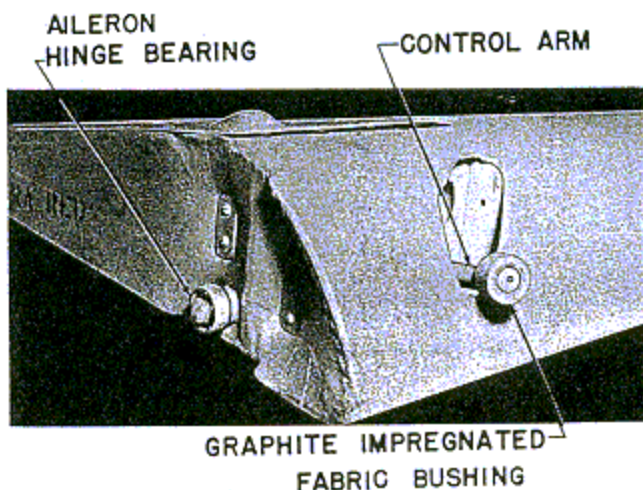
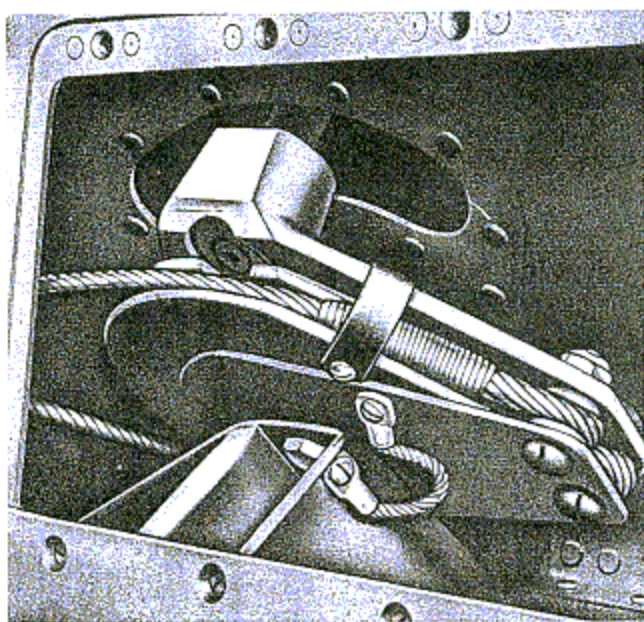

Figure 81—Inboard End of Aileron
Figure 82—Aileron Control Drum in Panel
(3) **INSTALLATION OF AILERON.**—Raise the aileron until the ball bearings on the ends of the aileron are seated in the upper half of the split clamp fittings on the panel, and the center hinge on the panel drops into place through a slot in the aileron leading edge. At the same time, it is necessary to guide the ball end of the control arm, with the composition waxed bushing installed (figure 81) into the socket of the drum in the panel. (See figure 82.) Clamp and bolt the end hinges and bolt the center hinge through an access door in the lower aileron surface. Connect the bonding tabs.